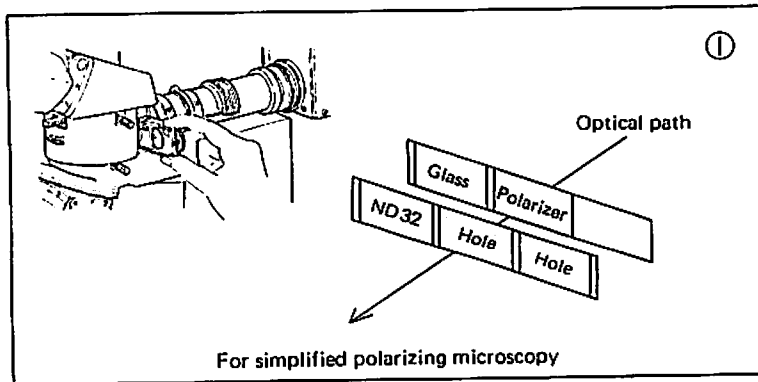

Fig. 9-1
- ① In the case of simplified polarizing observation, push the polarizer slider leftward in together with the accompanied ND slider, so that the position of polarizer coincides with the empty hole in the ND filter slider. (Fig. 9-1)